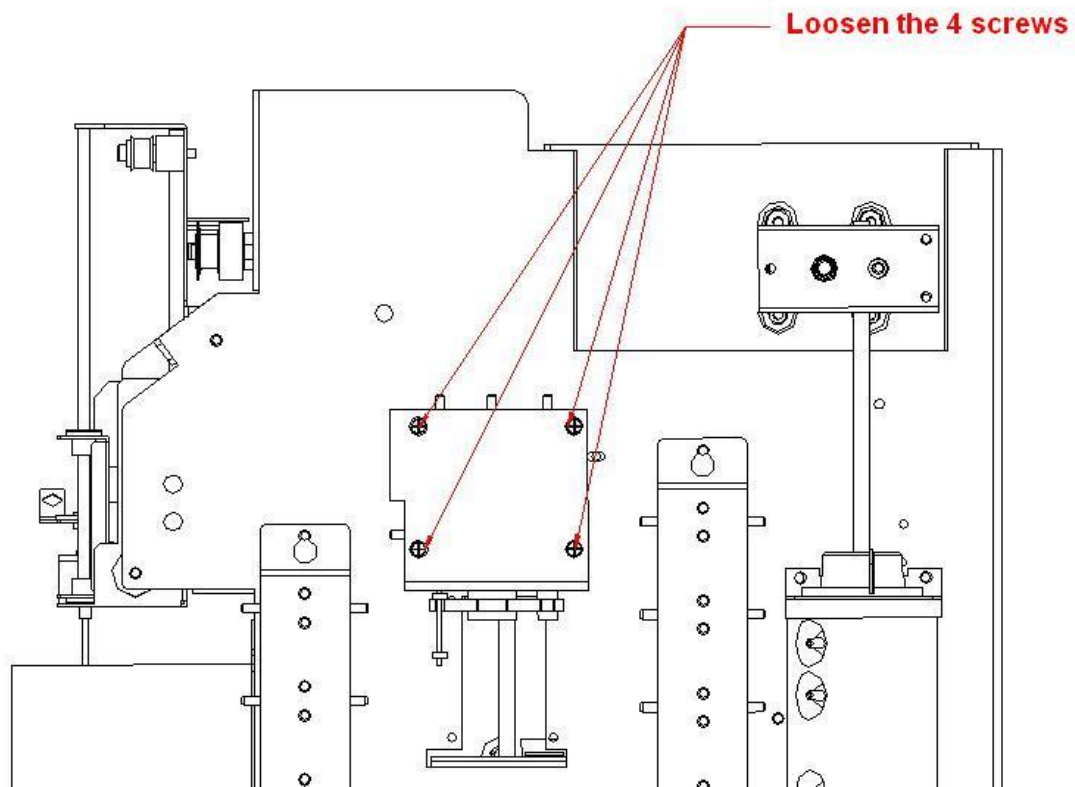

Figure 5-5 Disassembly the reagent dispensing syringe
- 1) Loosen the 4 screws which fix the reagent dispensing syringe assembly, take off the syringe from the inside board, as shown in figure 5-5: